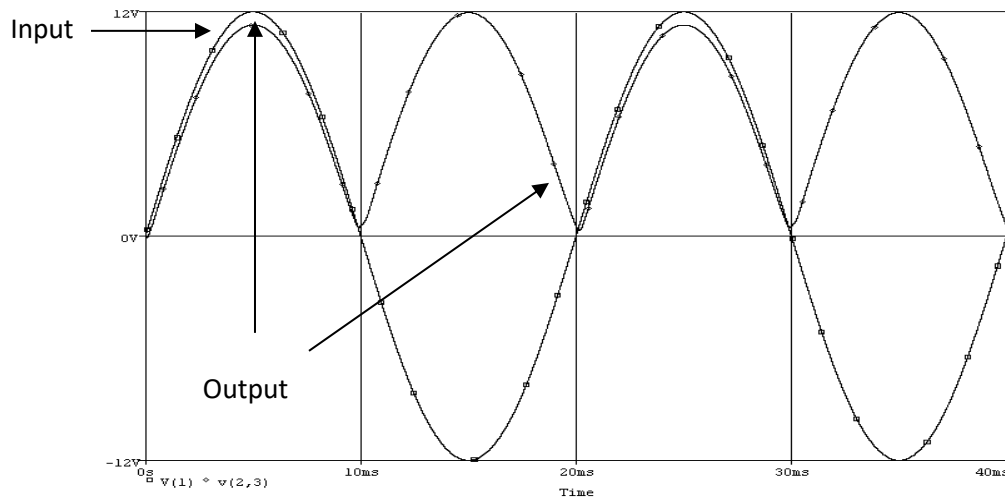

Fig. 3.3: Input, Output wave-shape of full wave rectifier
7. What is the frequency of the output of the circuit shown in Fig: 3.3.